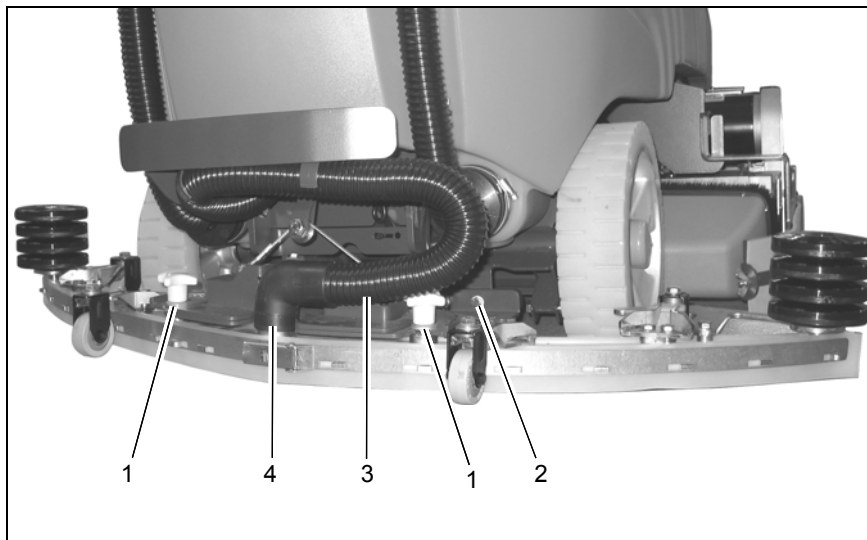

Fig. 3
1. Use the star-shaped knobs (Fig. 3/1) to fix the squeegee on the squeegee lift (Fig. 3/2).
2. Connect the suction hose (Fig. 3/3) to the nozzle (Fig. 3/4).